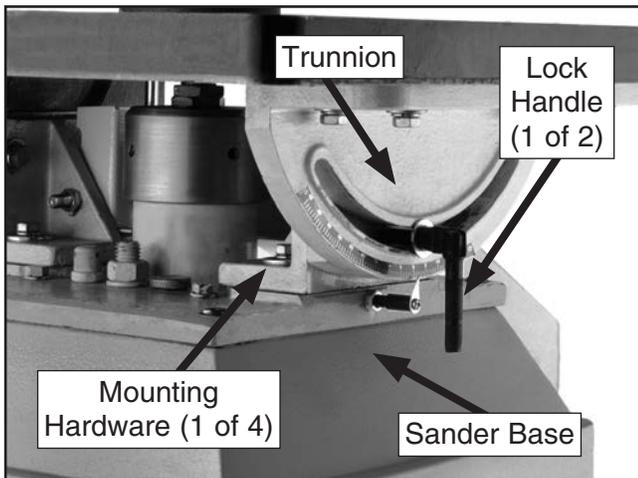

Figure 8. Table mounting.
3. Using the (4) $\frac{3}{8}$ "-16 x $1\frac{1}{4}$ " hex bolts and $\frac{3}{8}$ " lock washers, secure the table/trunnion assembly to the sander base as shown in **Figure 8**.
6. Loosen the table lock handles located on each side of the table trunnion assembly (see **Figure 8**).